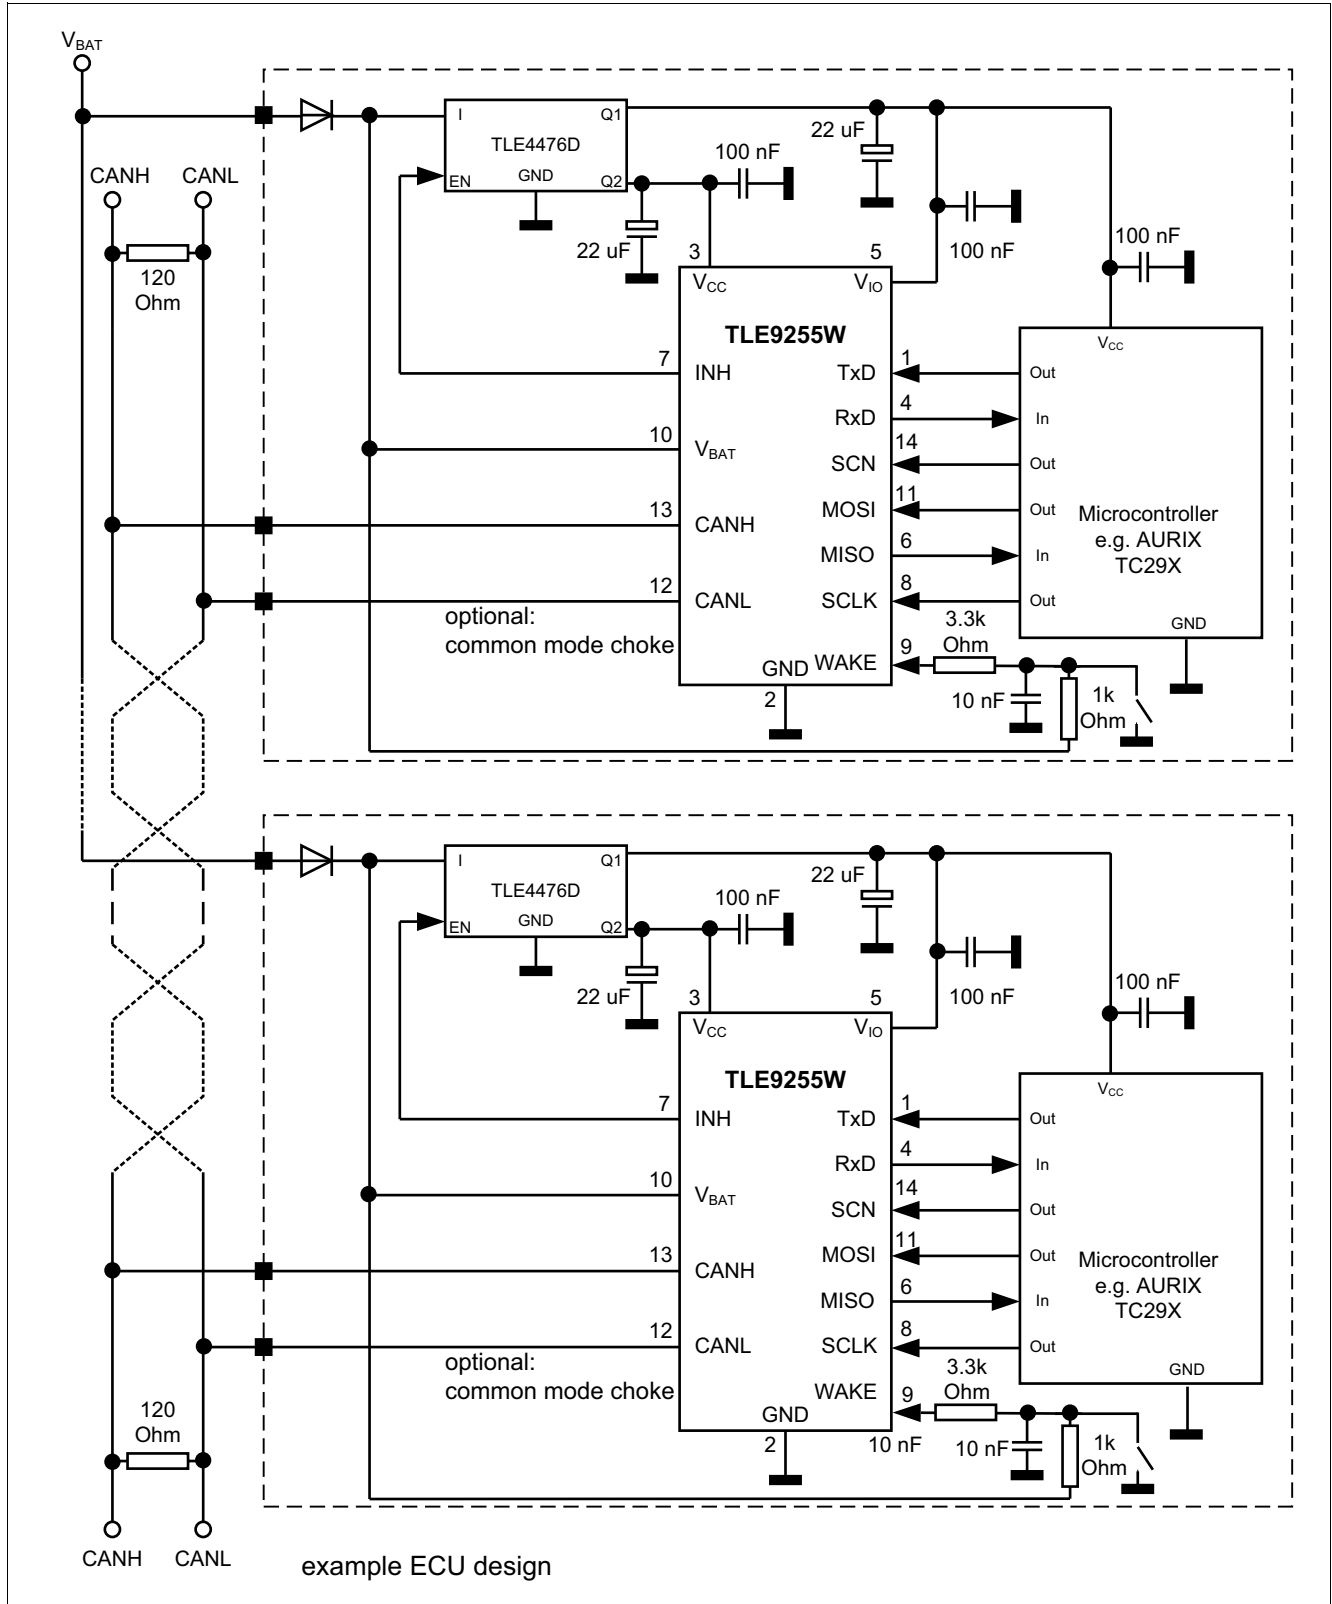

Figure 53 Application circuit
1) 10 nF capacitor and 3.3 kΩ resistor required (see Figure 53).
To adapt the digital input and output levels of the TLE9255W to the I/O levels of the microcontroller, connect the power supply pin  $V_{IO}$  to the microcontroller voltage supply (see Figure 53).